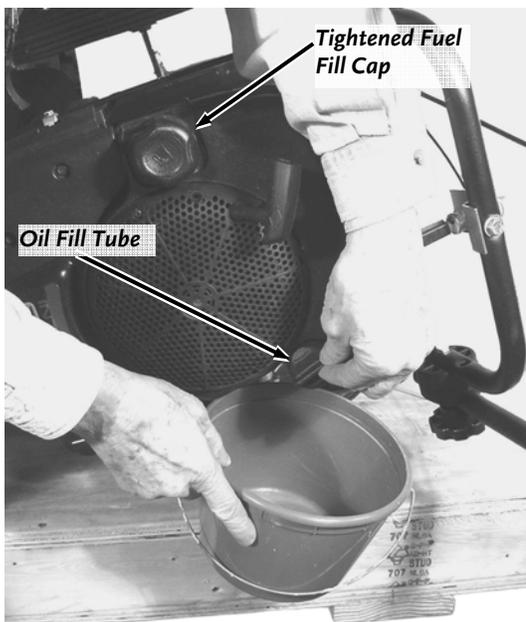

Figure 43
4. Using the handle of the DR TRIMMER/MOWER, tip the machine to the left and drain the oil out through the Oil Filler Tube (**Figure 43**) into a suitable receptacle.